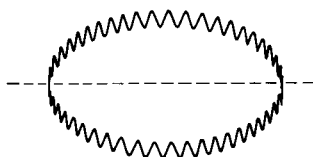

Fig. 14
- Adjust R3223 so that the left-hand and right-hand side of the Lissajous figure are at the same level (see Fig. 14).